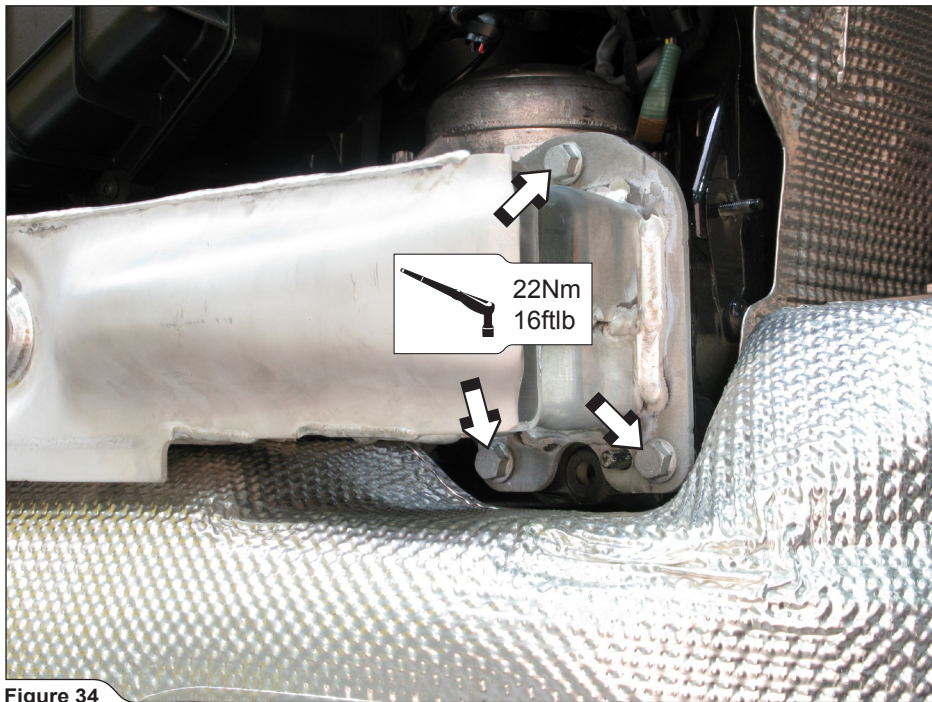

Figure 34
14. Reassemble the central muffler's heat shield; direct the vacuum tubes between the two heat shields, as shown (Figure 34, 35).